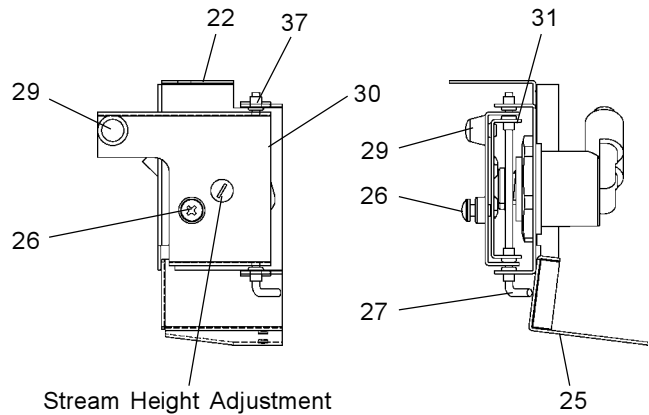

FIG. 7
6. Turn on water supply and check for leaks. Adjust fountain stream by adjusting regulator screw on (item 14) until a stream height of 1-1/2" (38mm) above the projector is obtained. Replace fountain access cover plate. Run chiller and check for correct functions ( see chiller installation instructions). If needed, adjust push arm/regulator clearance by turning phillips head screw on regulator bracket ass'y (item 26, fig.7). Turning screw CCW should correct water coming out of projector continuously.
7. Start (2) 10-24 x 5/8" screws into mounting frame, bottom lip for bottom access panel. The top edge of the bottom access panel has a "tongue" designed to slip under lower edge of the top panel. There are open slots on bottom for the (2) 10-24 screws. Install panel and tighten screws down.